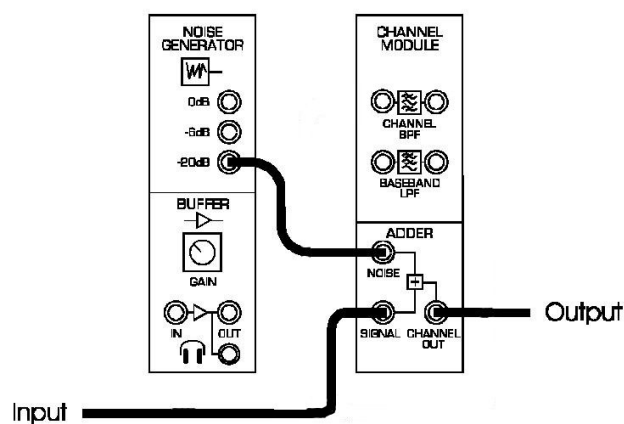

Figure 30:
23. Now add noise to the FSK signal based on the additional setup shown in Figure 30.